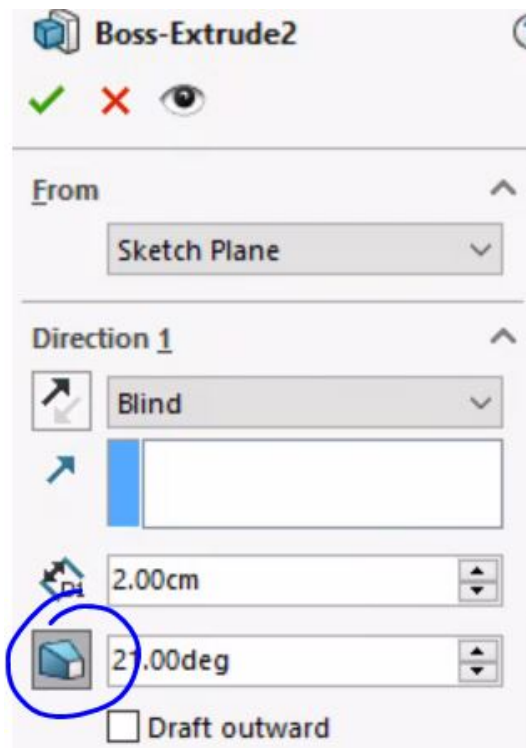

Figure 6: You can control the extruded solid by tapering it in/out and by how much.
- (b) If you look at the options available, you can do much more than that. For example, you can click on the Draft On/Off button to extrude at an angle (see Figure 6).